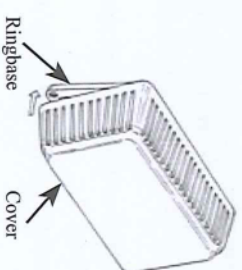

Figure 2
7. Assemble the guard cover by placing the holes on the edge of the guard cover onto the ringphase pins and close cover. See Figure 2.
- Mount the cover by placing the holes on the edge of the cover onto the ringbase pins and closing the cover. See Figure 2.
- Mount the guard cover by placing the holes on the edge of the guard cover onto the ringbase pins and close cover. See Figure 2.
- Assemble the guard cover by placing the holes on the edge of the guard cover onto the ringbase pins and close cover. See Figure 2.